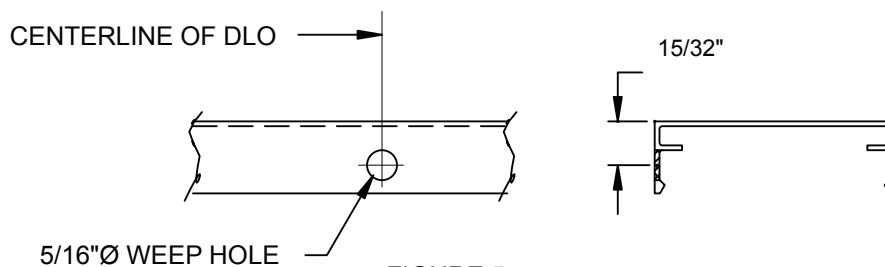

FIGURE 5
2.4 Horizontal face caps are to be cut D.L.O. minus 1/16". Drill 5/16" weep hole on bottom of cap at centerline. See FIGURE 5, page 8.